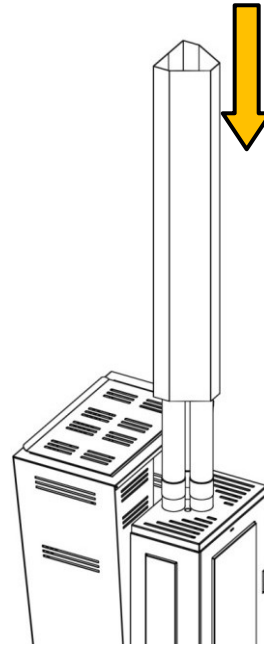

Fig. 3
- 2 Fit the net on the pipes and slide it to the bottom (Fig. 3)